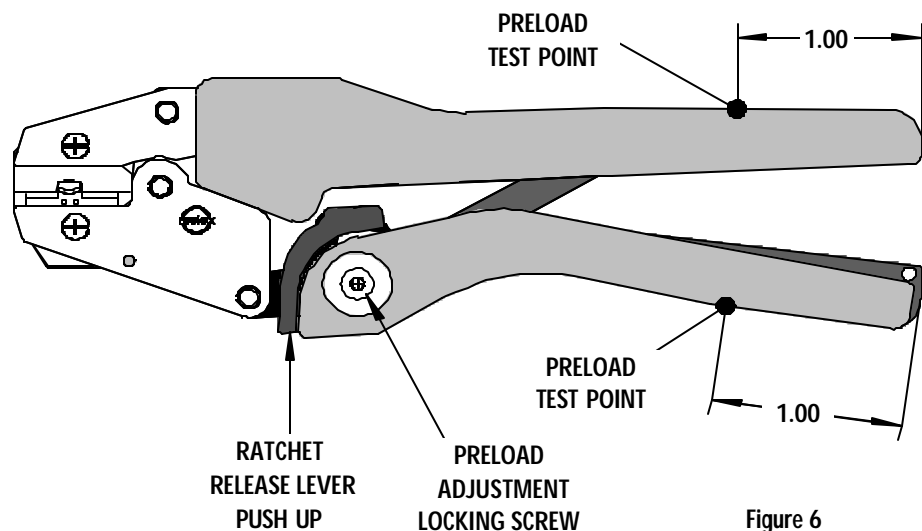

Figure 6
**Do Not** force the handles open or closed. The tool will open easily by lifting the ratchet release lever (See Fig.6).
## How To Adjust Tool Preload (See Figure 6)
A Certificate of Calibration (see last page) was supplied with the tool. To recalibrate this tool, pin gauge measurements should be taken in each conductor nest and compared to this chart. The tool should be lubricated prior to recalibration to ensure consistent measurements. Handle preload is factory set to 25-45 LBS. See How to Adjust Tool Preload (see Figure 6) to recalibrate.